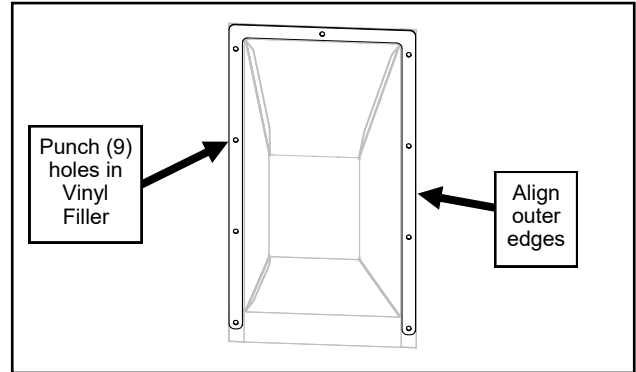

Fig. 9.1 (Punch Holes in Vinyl Filler)
9.1 Using the painted sheet metal mounting flange as a template, mark and pierce holes in the vinyl filler. See Figure 9.1.